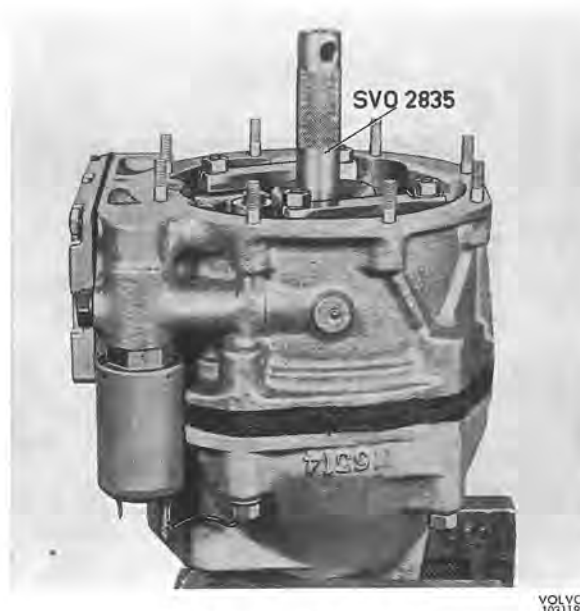

Fig. 4-60. Installing front casing
5. Install the brake ring on the front casing. Place the front casing on the rear one. Fit washers and nuts, see Fig. 4-60. Note that both the copper washers should be fitted on the upper bolts. Tighten the bolts a little at a time until they are tightened evenly all around.